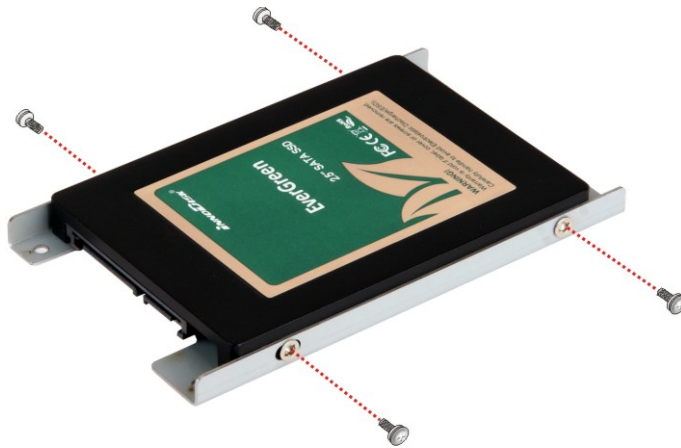

Figure 3-18: HDD Retention Screws
- Step 3:** Attach the HDD brackets to the HDD. To do this, align the four retention screw holes in the both sides of the HDD bracket with the retention screw holes on the sides of the HDD. Insert four retention screws into the HDD bracket (**Figure 3-18**).